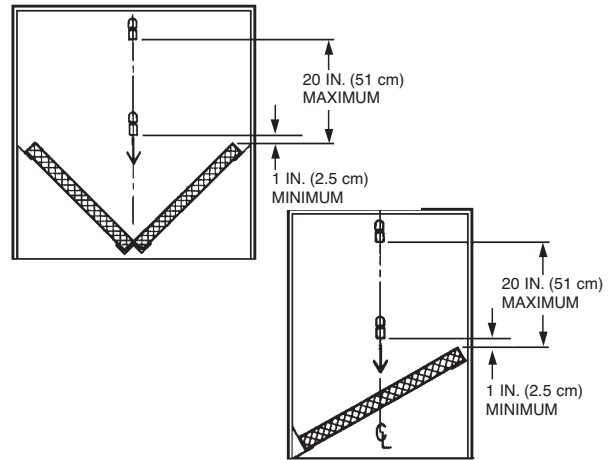

FIGURE 7
- Option 1:** The 1W nozzle must be on the center line of the single or “V” bank filter and positioned within 1-20 in. (2.5-51 cm) above the top edge of the filter. See Figure 7.